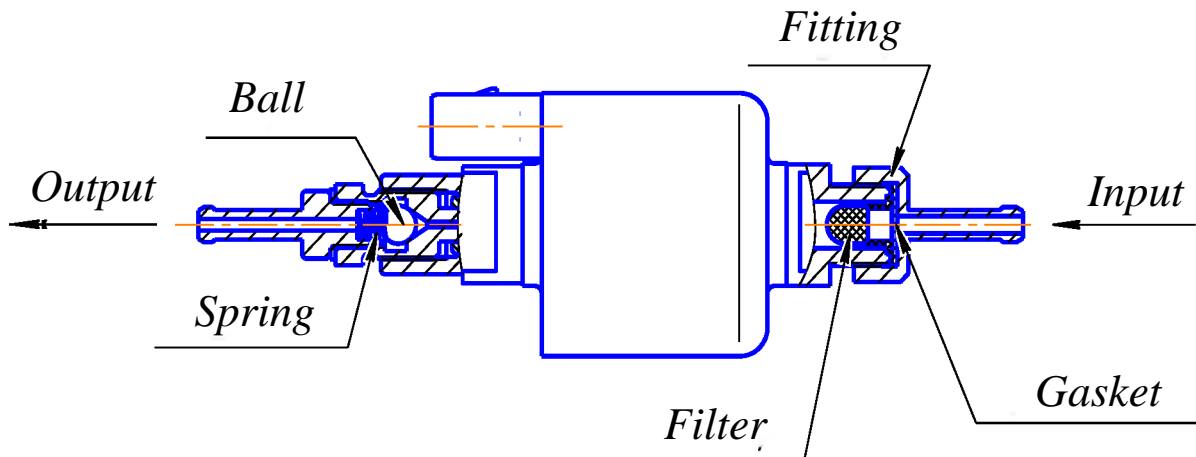

Fig. 17 Fuel pump
6.2.1 The fuel pump (Fig. 17) is used to dose fuel into the combustion chamber.
- check the tightness of the connection between the fuel pump housing and the inlet fitting (see Fig. 17). Checking should be carried out with air pressure of max. 1 kgf/cm². Supply pressure from the inlet and outlet side at the same time. If the connection is leaking, it is necessary to replace the gasket in the fitting (see Fig. 17).